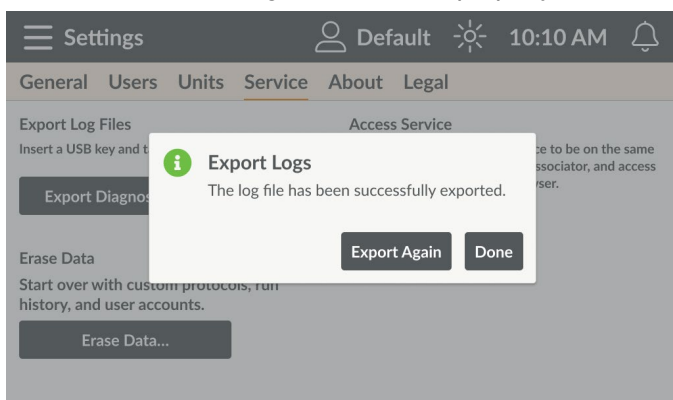

Figure 86. Successful Log Export Dialog
5. Tap  and allow for the export to complete successfully (Figure 86).